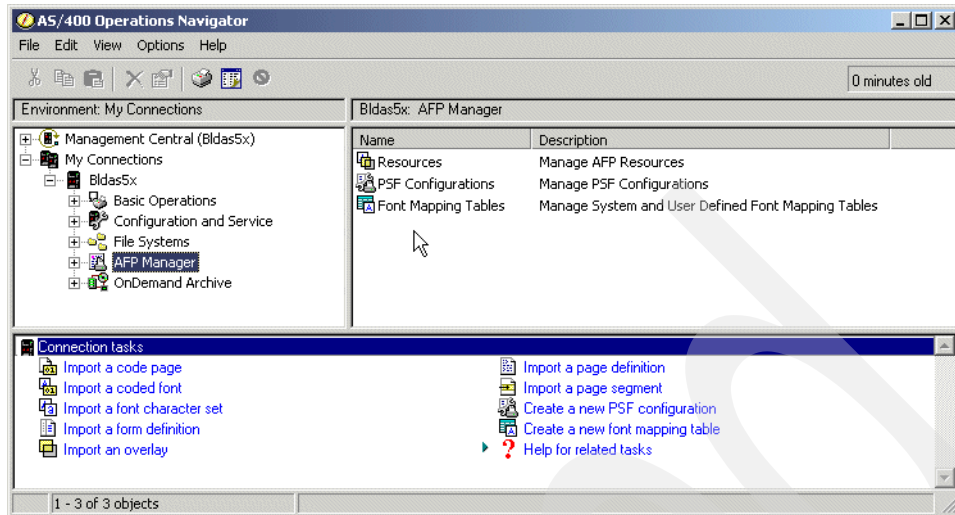

Figure 143. AFP Manager window
4. Double-click **AFP Manager** to invoke it. Figure 143 shows AFP Manager.